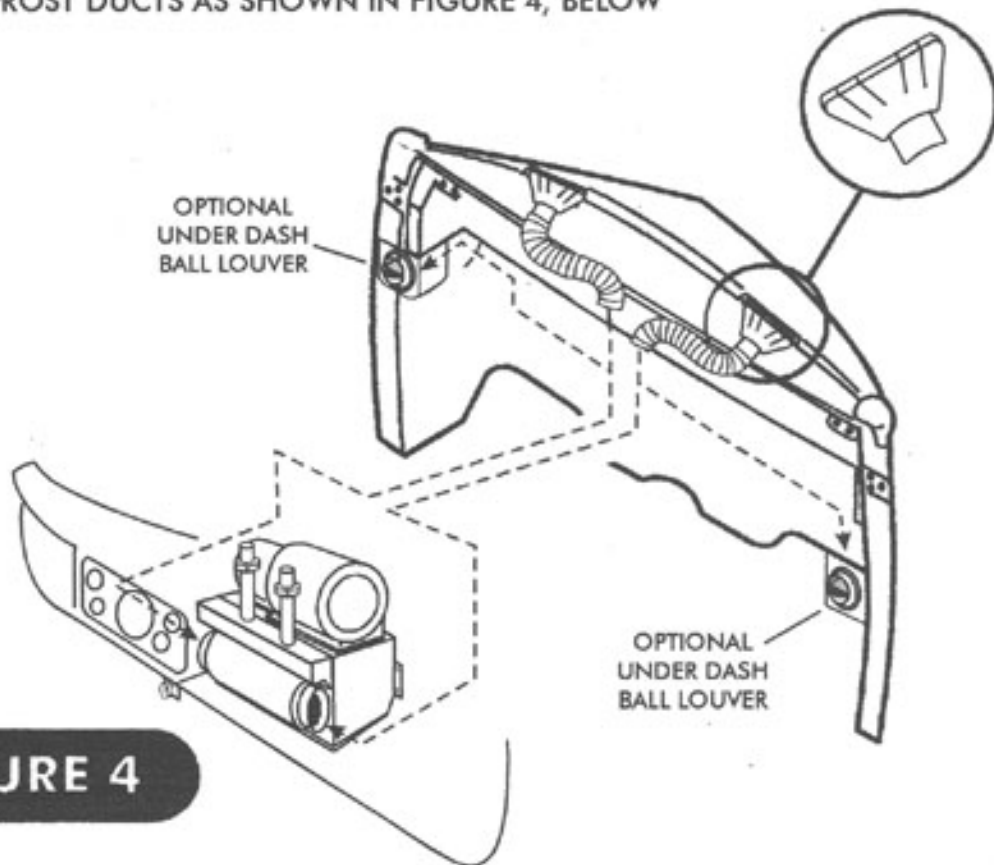

FIGURE 4
- INSTALL THE DEFROST DUCTS AS SHOWN IN FIGURE 4, BELOW